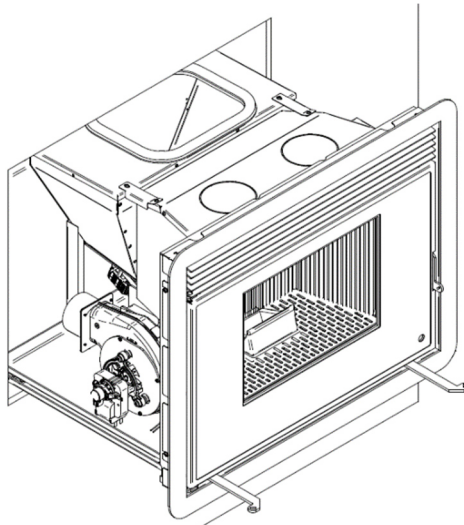

Figure 49 - Extractor position
- The smoke extractor is located on the left side of the equipment (Figure 49).